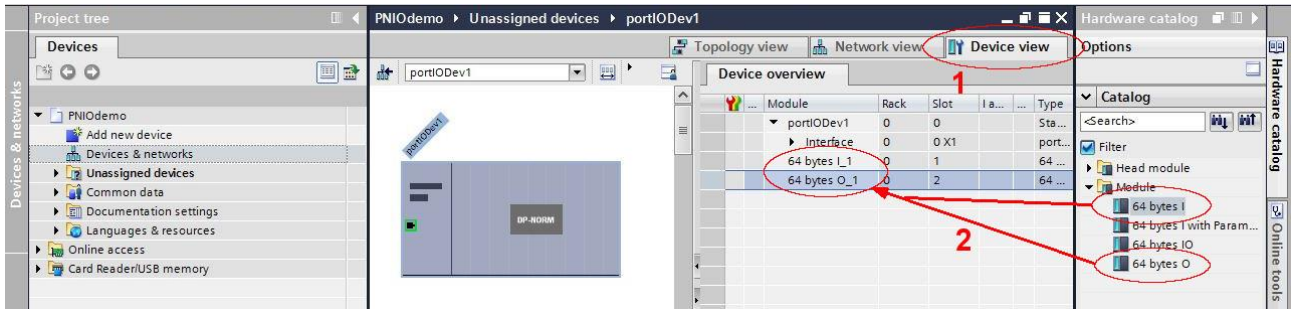

Figure 4-2: Add I/O modules
5. Add input and output modules to RZ/N1 (Figure 4-2):